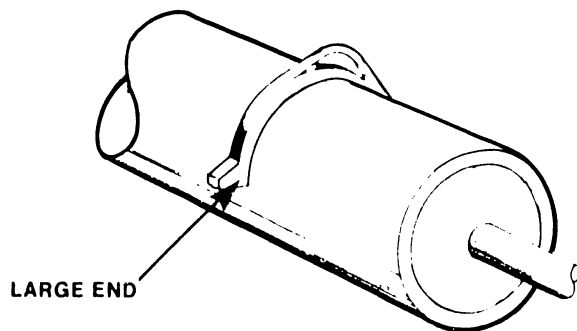

FIGURE 5-7
2. Set large part of the alignment tool (WL #580-0225) forward on the platen in line with print hammer (see Figures 5-7 and 5-8). With the print wheel removed and the copy-control lever in position 1, the large end of the alignment tool should just touch the hammer.